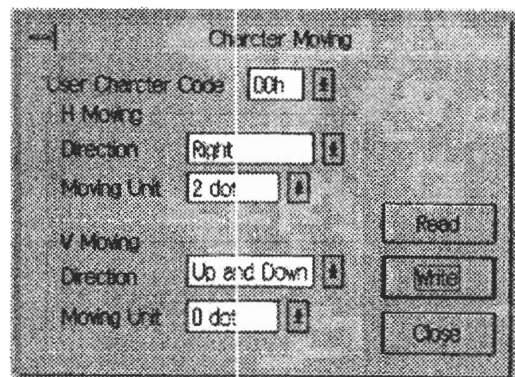

Figure 4-17
- "Character Moving" (Figure 4-17):